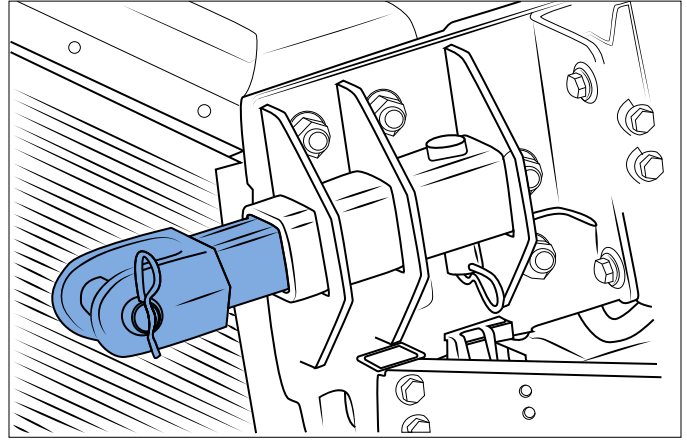

**Figure 29** – Tow hooks inserted on the front crossmember
4. Insert the two hooks on the front cross member as illustrated in **(Figure 29)**.